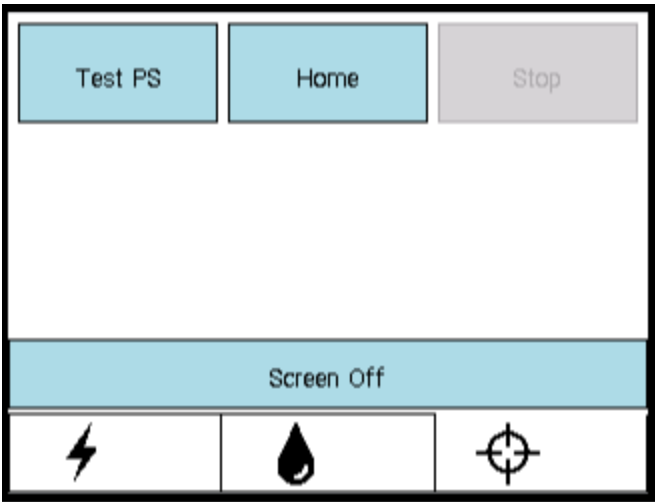
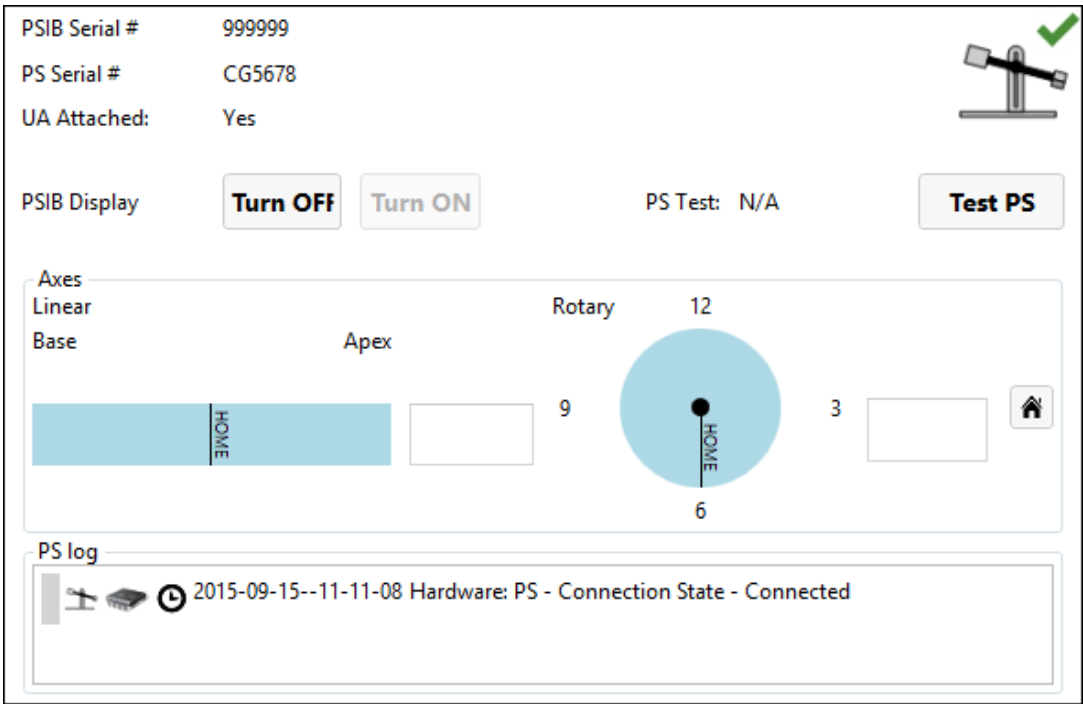

Figure 6: PSIB display - PS tab
Figure 7: PS information box in Setup workspace
- b. On the PSIB display, select the PS tab  and click **Test PS** (Figure 6). The system will translate the PS forward and backward to test the continuity and functionality of the translation axis as well as home the PS in the translation axis. The system will also rotate the rotational axis clockwise and counter-clockwise to test the continuity and functionality of the rotational axis. (This can also be done from the TDC Setup workspace in the PS information box in the bottom-right quadrant Figure 7.) You can move to the next step while the PS test is in progress.